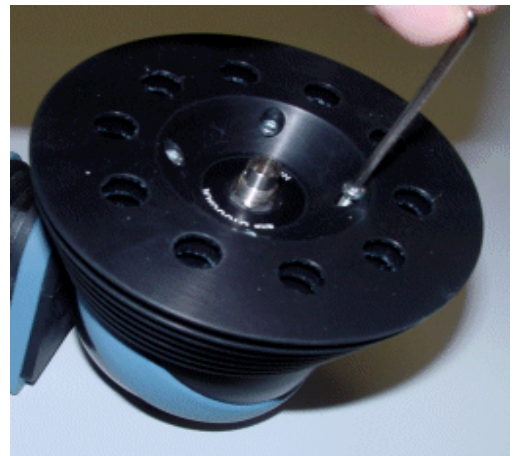

Figure 6 Attaching the Upper Part of the Heat Sink
- 3** Attach the upper part of the heat sink to the integrating sphere. Slide the upper part over the connector adapter with the largest diameter facing opposite to the sphere. Tighten the screws with the Allen key enclosed in the Heat Sink Kit (see Figure 6).